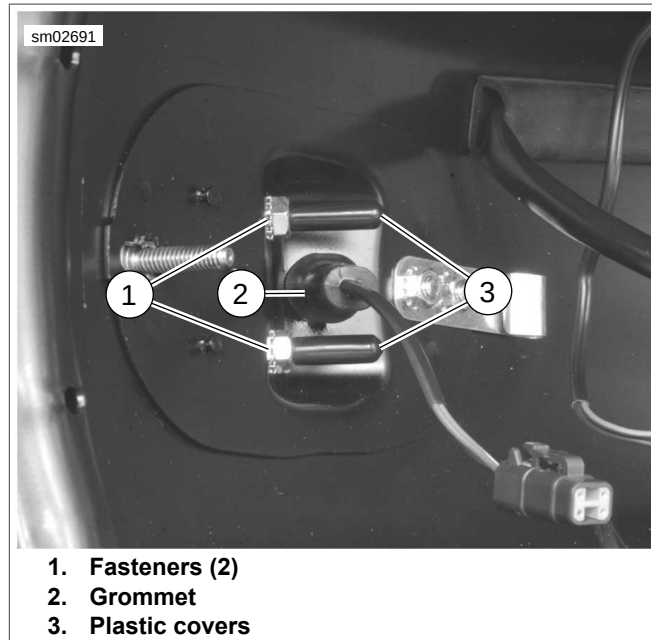
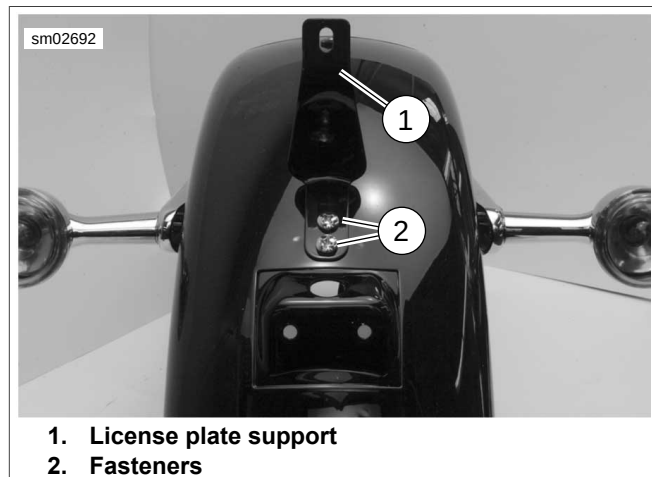
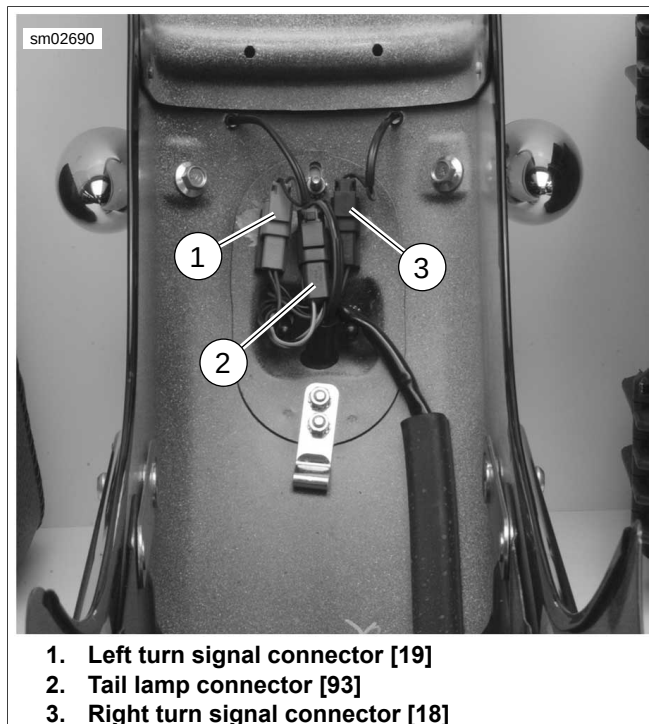

Figure 7-43. Tail Lamp
Figure 7-44. License Plate Support
Figure 7-42. Tail Lamp Connector
5. See Figure 7-42. Disconnect tail lamp connector (2).
6. See Figure 7-43. Remove plastic covers (3) from tail lamp threads. Remove fasteners (1).
7. Push grommet (2) to outside of fender.
8. See Figure 7-44. If license plate support (1) was removed, install clip on inside of fender and tighten fasteners (2) to 60-90 **in-lbs** (6.8-10.2 Nm).
11. See Figure 7-43. To install tail lamp, route harness through hole in fender and lubricate rubber grommet (2) with alcohol or glass cleaner. Place grommet into position.
12. Place tail lamp into position and install fasteners (1). Tighten fasteners to 60-90 **in-lbs** (6.8-10.2 Nm). Install plastic covers (3).
13. See Figure 7-42. Connect tail lamp connector (2).